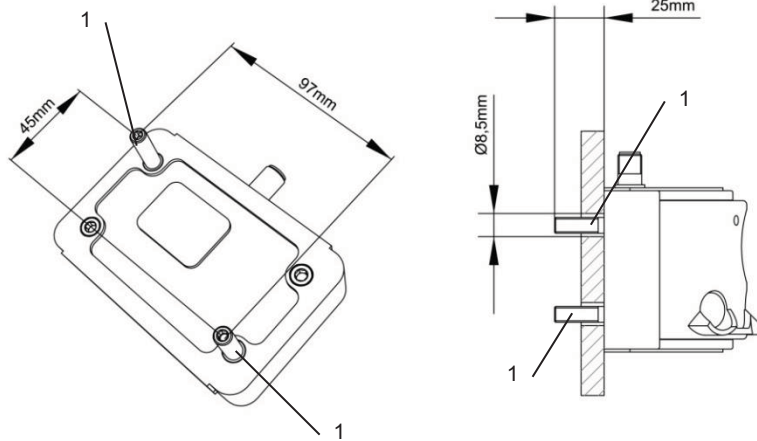

Figure 19: CySens sensor hole layout
The sensor is mounted using the two M8 projecting bolts on the back (ref. 1, Figure 19).
An alternative is to make your own brackets. Figure 19 shows the centre distances and measurements required.
When tightening the nuts on the projecting bolts (ref. 1, Figure 19), insert a socket wrench in the end to prevent rotation.